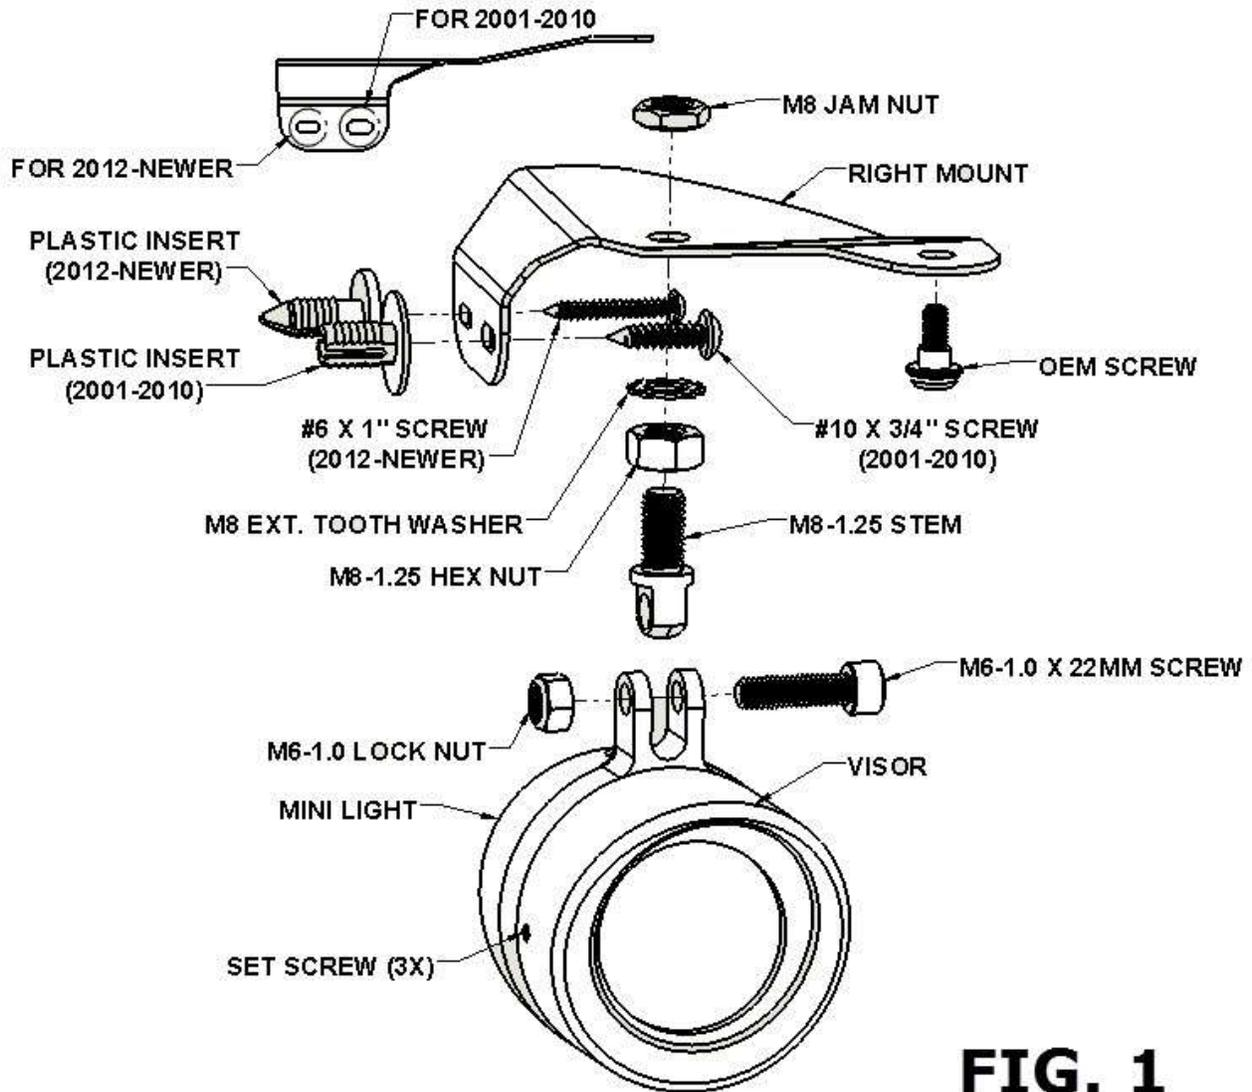

FIG. 1
3. PLACE THE PLASTIC INSERTS INTO THE HOLES WHERE YOU REMOVED THE PLASTIC POP RIVETS. SELECT THE PROPER INSERT FOR YOUR YEAR OF BIKE BY USING THE FIG. 1 DIAGRAM BELOW. PLACE THE MOUNTING BRACKET UP TO THE PLASTIC INSERT AND INSERT THE SHEET METAL SCREW THROUGH THE BRACKET INTO THE PLASTIC INSERT. YOU WILL NEED TO PUT PRESSURE ON THE PLASTIC INSERT TO PREVENT IT FROM SPINNING.
5. INSTALL THE M8-1.25 HEX NUT ON THE STEM OF EACH MINI LIGHT AS SHOWN IN FIG. 1. TIGHTEN.